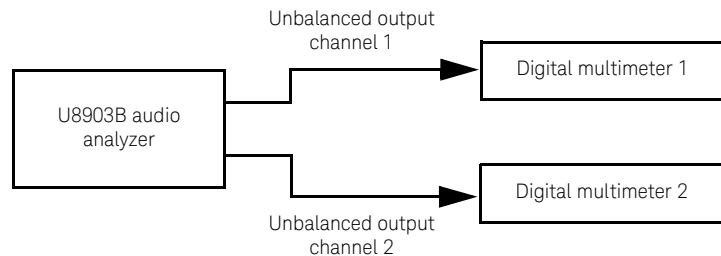

Figure 2-6 U8903B to digital multimeter connections for square wave amplitude accuracy verification
- 1 Connect the U8903B Unbalanced output channel 1 to the first digital multimeter and Unbalanced output channel 2 to the second digital multimeter as shown in **Figure 2-6**. Preset both the U8903B and digital multimeters.